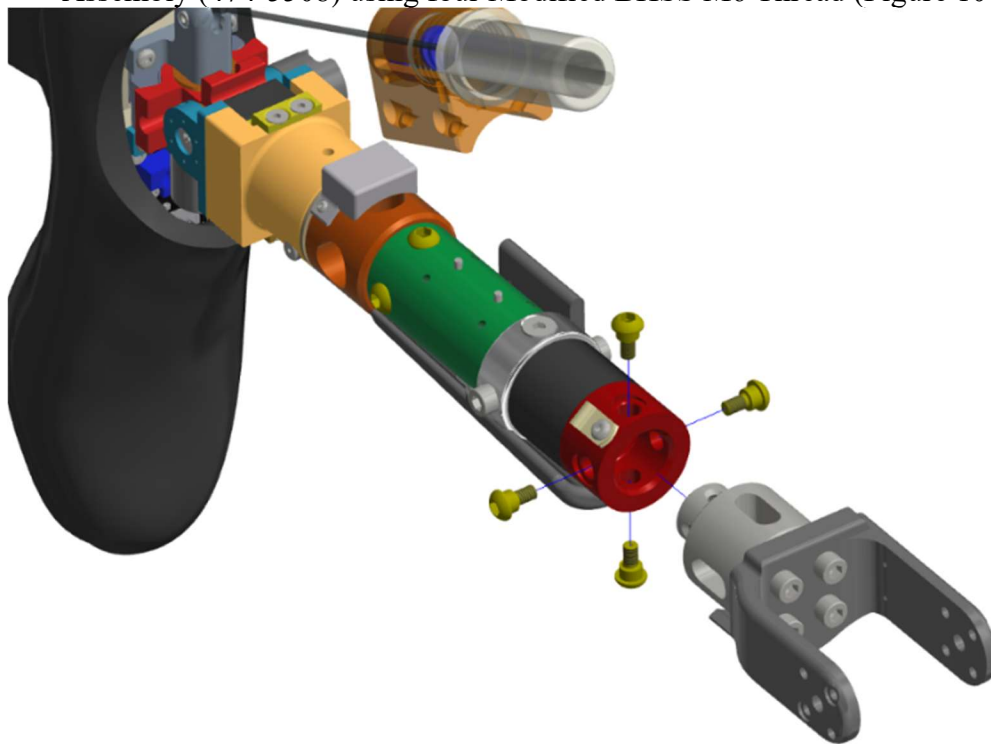

Figure 10-63. Attach the Upper Tibia Load Cell (SA572-S103) to the Tibia Compliant Element Assembly (474-5508)
10.3.28 Attach the Upper Tibia Load Cell (SA572-S103) to the Tibia Compliant Element Assembly (474-5508) using four Modified BHSS M6 Thread (Figure 10-63).